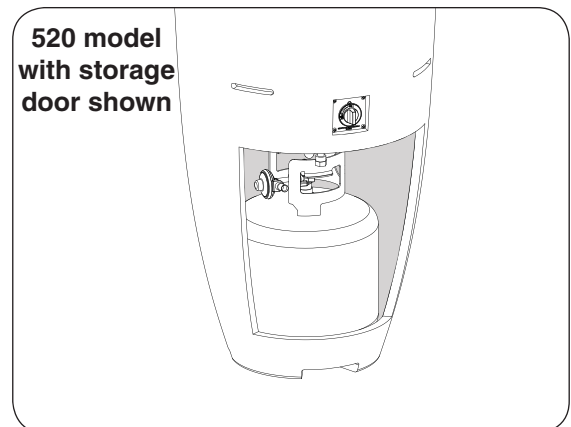

Fig. 16-2 L.P. Cylinder placement
3. The propane cylinder (not included) is to be located inside the base of the unit. For models equipped with storage doors, install via the opening (see Fig. 16-2).